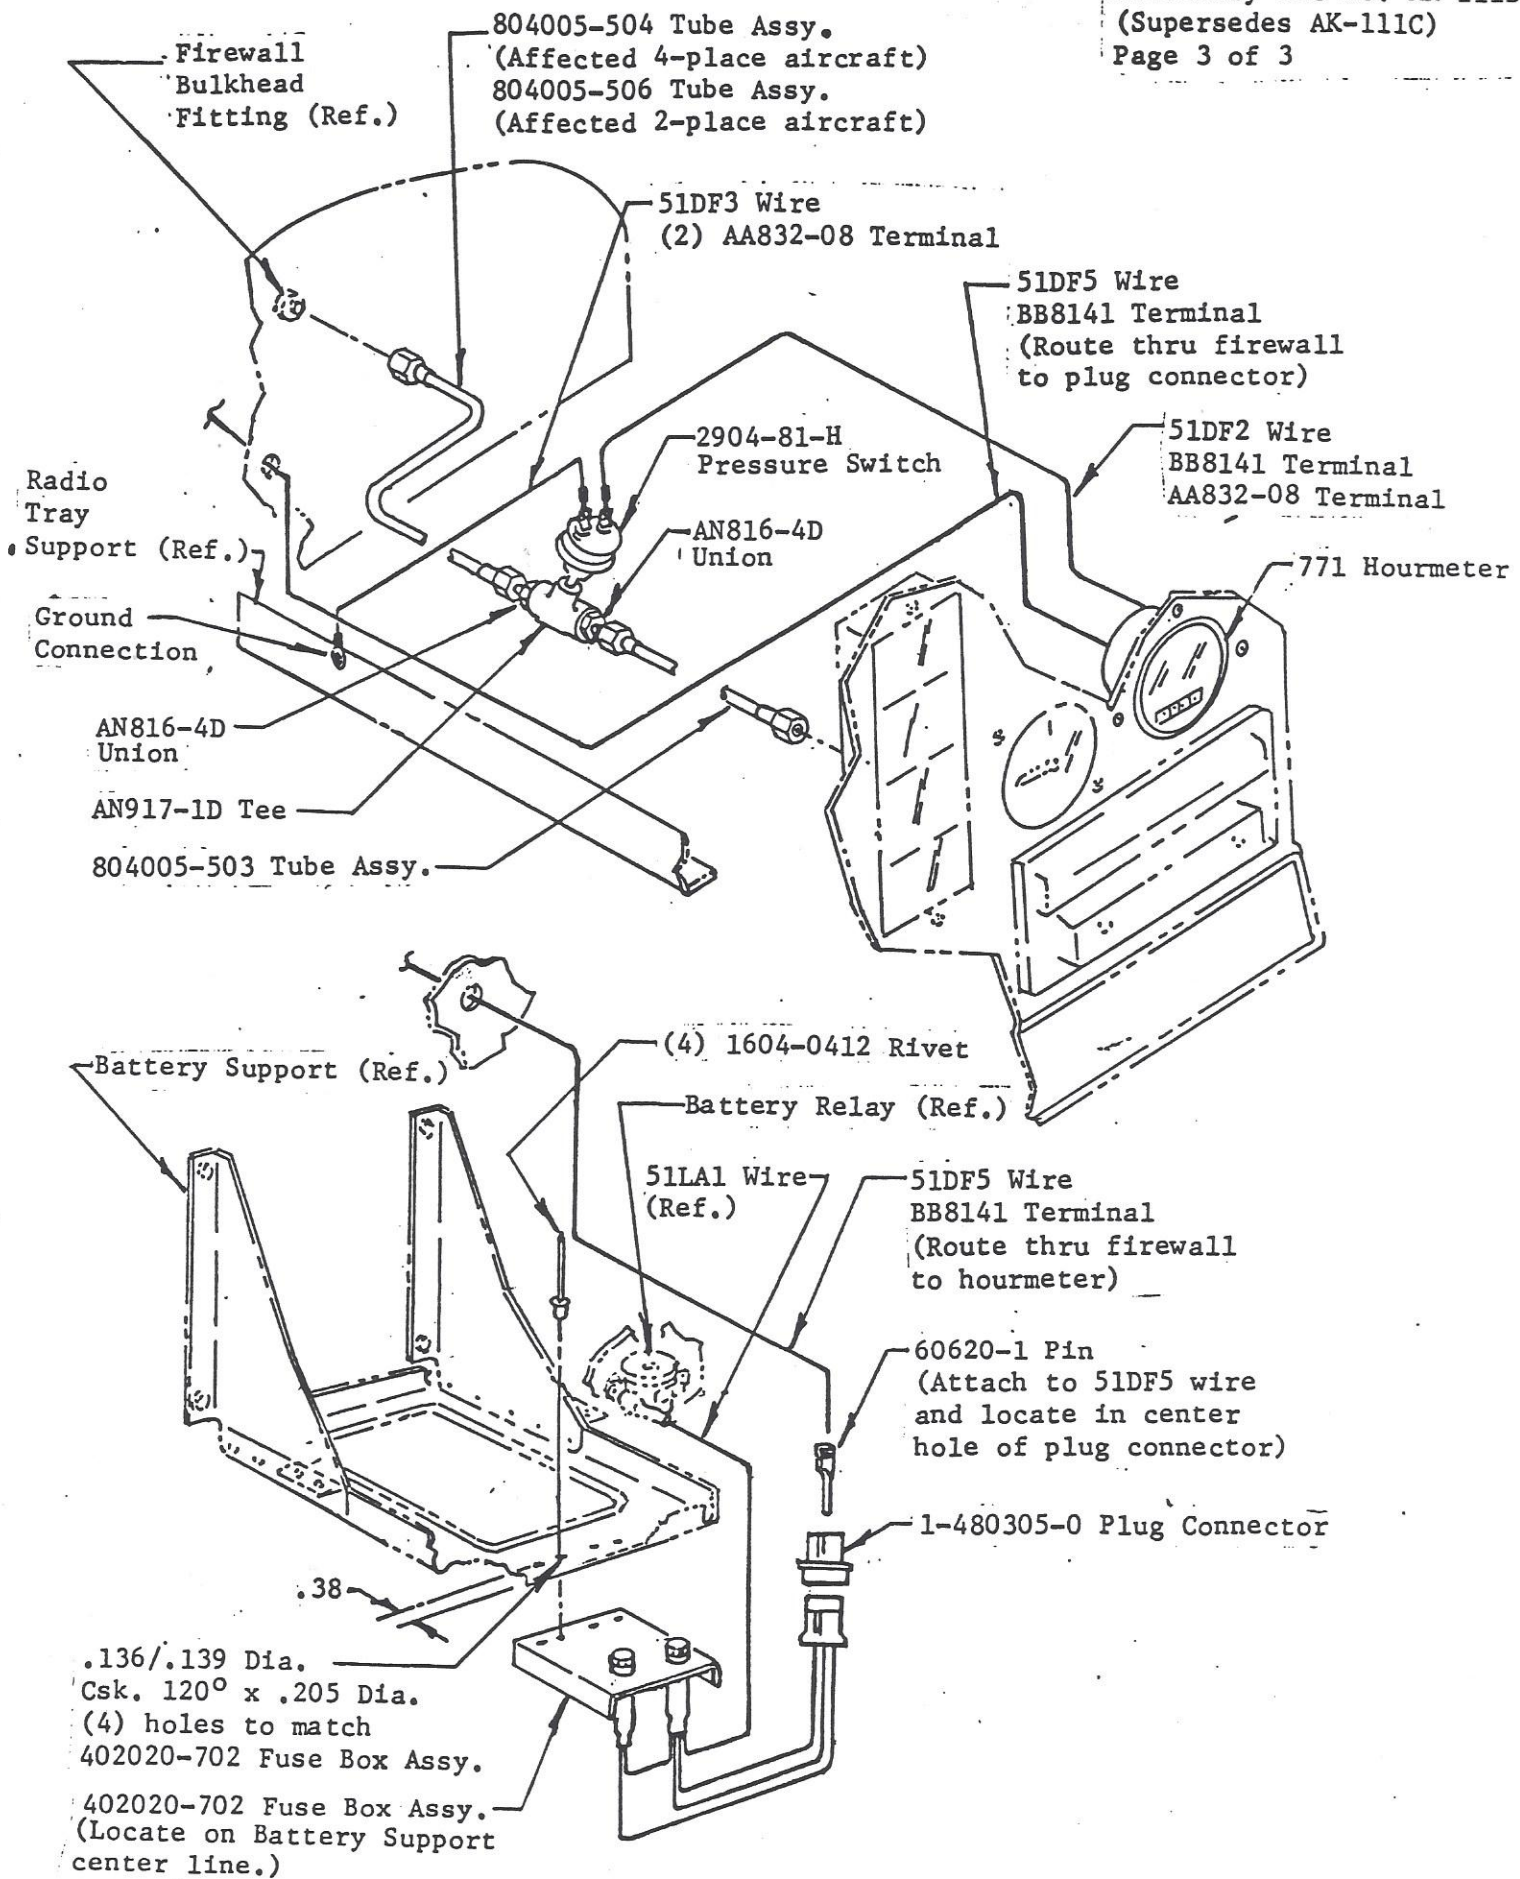

Figure 1. Hourmeter Installation
Installation Instructions (Refer to Figure 1.)
1. Cut hole in instrument panel royalite cover, drill (3) .147 dia. holes for mounting screws and attach hourmeter to instrument panel.
2. Remove existing oil line from firewall to oil pressure gauge. Pre-assemble the pressure switch and replacement oil lines, as shown in Figure 1, and attach to firewall bulkhead fitting and oil pressure gauge.
3. Fasten BB8141 and AA832-08 Terminals to the 51DF2 Wire and attach between hourmeter and pressure switch. Fasten (2) AA832-08 Terminals to the 51DF3 Wire and attach one end to the pressure switch. Ground opposite end of the 51DF3 Wire, by attaching to existing ground connection at the radio tray support. In the absence of a ground connection at the radio tray support, insure ground continuity and attach to other convenient ground source.
5. Remove battery box and rivet 402020-702 Fuse Box Assembly to battery support, as shown in Figure 1.